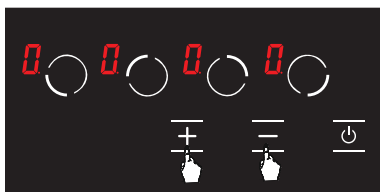

Figure 7
3. Cooking level of the relevant hob may be set from 1 to 9 using the and the keys or from to 9 as per the option of the stove. (See Fig. 7)